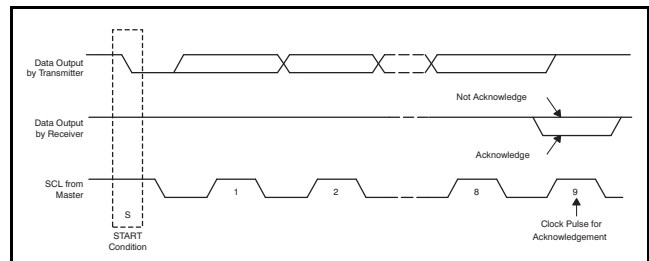
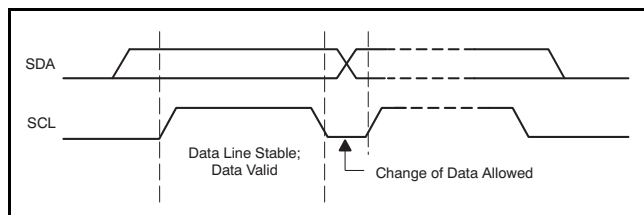

Figure 90. Acknowledge and Not Acknowledge on the I²C Bus
Figure 91. Bit Transfer on the I²C Bus
Other than specific timing signals, the I²C interface works with serial bytes. At the end of each byte, a 9th clock cycle is used to generate/detect an acknowledge signal. Acknowledge is when the SDA line is pulled low during the high period of the 9th clock cycle. A not-acknowledge is when the SDA line is left high during the high period of the 9th clock cycle as shown in Figure 90.
- The *master* initiates data transfer by generating a *start condition*. The *start condition* is when a high-to-low transition occurs on the SDA line while SCL is high, as shown in Figure 90. All I²C-compatible devices recognize a start condition.
- The master then generates the SCL pulses, and transmits the 7-bit address and the *read/write direction bit* (R/W) on the SDA line. During all transmissions, the master ensures that data is *valid*. A *valid* data condition requires the SDA line to be stable during the entire high period of the clock pulse, as shown in Figure 91. All devices recognize the address sent by the master and compare it to their internal fixed addresses. Only the slave device with a matching address generates an *acknowledge* by pulling the SDA line low during the entire high period of the ninth SCL cycle, as shown in Figure 90 by pulling the SDA line low during the entire high period of the 9th SCL cycle. Upon detecting this acknowledge, the master knows the communication link with a slave has been established.